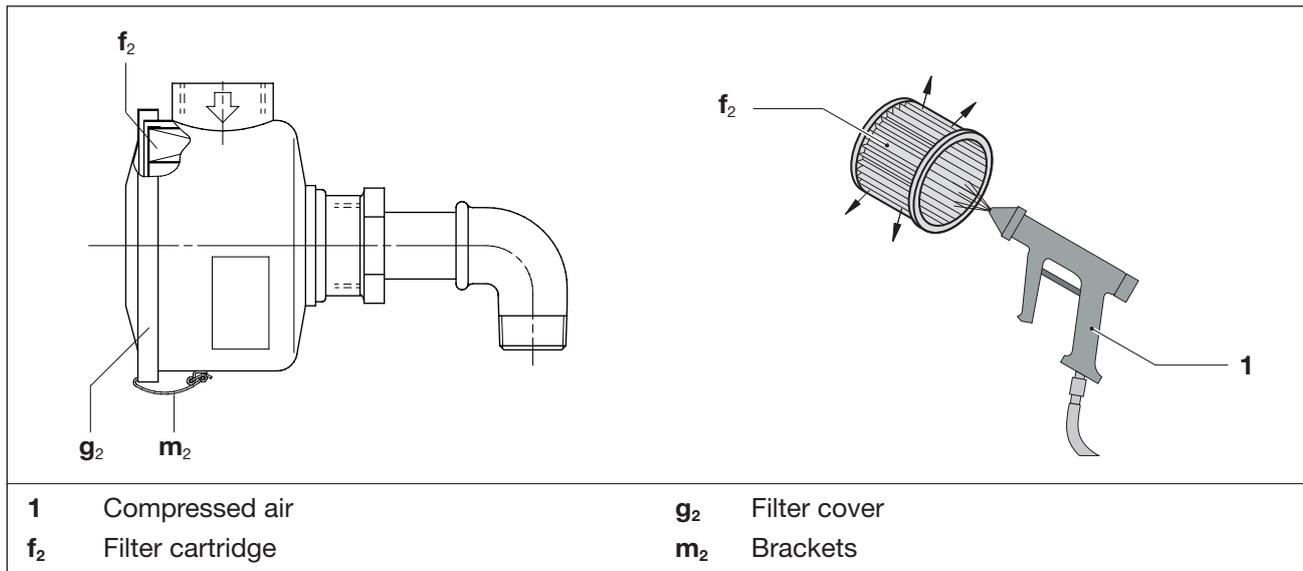

Fig. 8 Vacuum compressor intake filter
The filter cartridge (Fig. 8/f₂) of the vacuum-tight intake filter (Fig. 2/S) must be cleaned monthly or more often depending on the contamination by blowing off from the inside outwards. In spite of cleaning the filter its separation efficiency will continue to deteriorate. Therefore the filter should be replaced every six months.
- b) Release the brackets (Fig. 8/m₂) on the filter cover (Fig. 8/g₂).
- c) Remove the filter cartridge (Fig. 8/f₂) from the filter and clean or replace.
- d) Re-insert the filter cartridge in the filter and fasten the filter cover (Fig. 8/g₂) with the tensioning clamps.